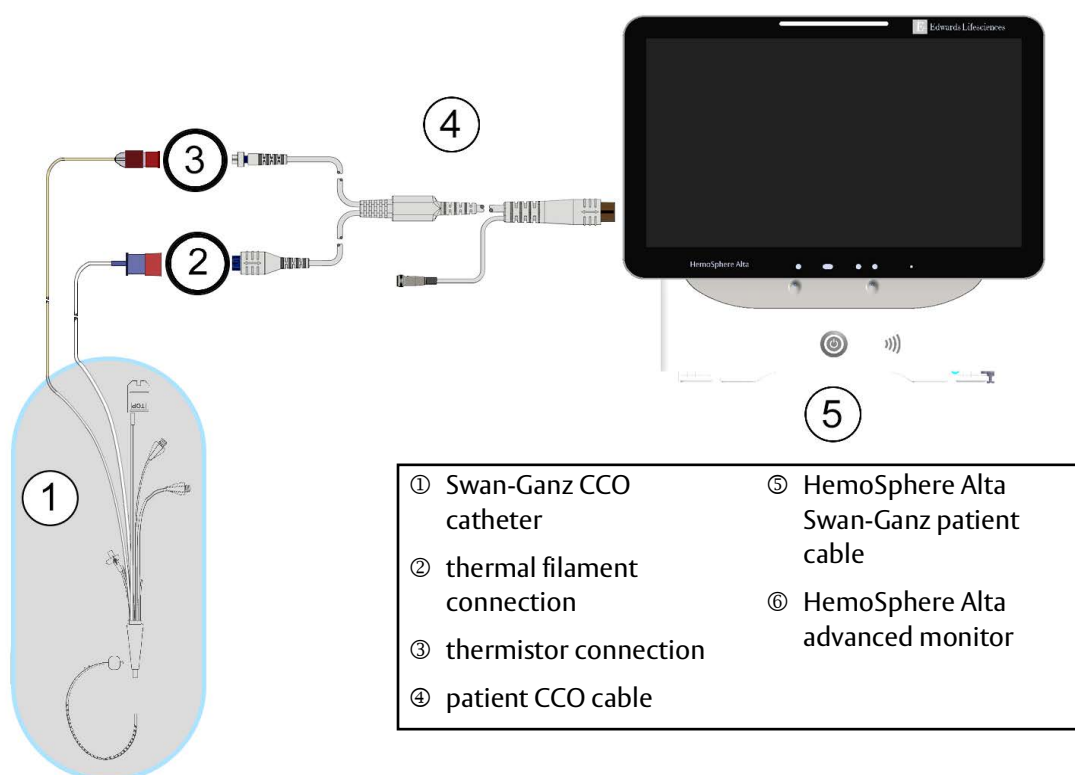

Figure 8-2 CO connection overview
- 2 Attach the catheter end of the patient cable to the thermistor and thermal filament connectors on the Swan-Ganz CCO catheter. These connections are emphasized as numbers ② and ③ in Figure 8-2 on page 125.